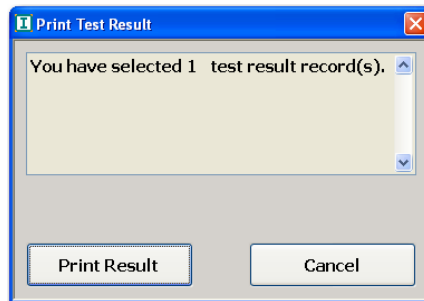

Figure 48 Print Test Result dialog box
3. A dialog box (Figure 48) will appear. Press **Print Test Result** to send the report to the printer.